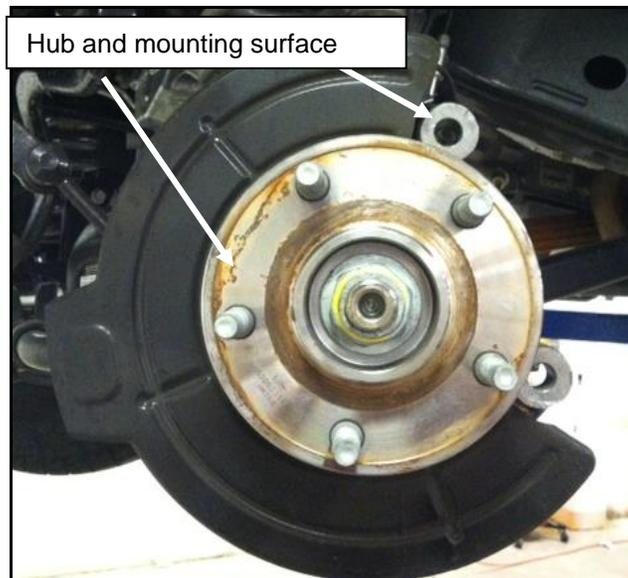

Figure 2: Rotor and caliper removed from spindle
3. Remove the rotor and thoroughly clean the hub surface and caliper mounting surfaces to ensure proper seating of the new components. See Figure 2 for reference.